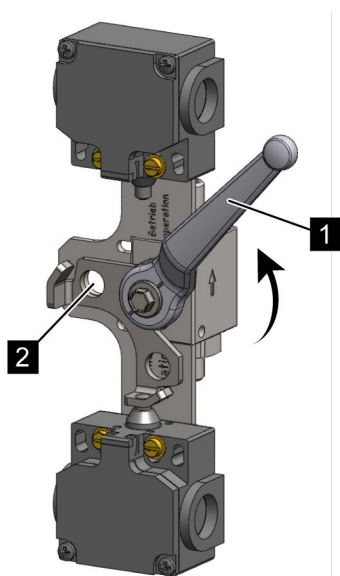

Fig. 28: Resetting the isolation (optionally with 1 or 2 limit switches)
3. ▶ Open and remove the padlock at the locking eye (Fig. 28/2) of the blocking device.
4. ▶ Turn the ball valve (Fig. 28/1) of the blocking device as far as it will go in counterclockwise direction (Fig. 28/arrow).
5. ▶ Hook the padlock into the locking eye (Fig. 28/2) of the blocking device and lock it.